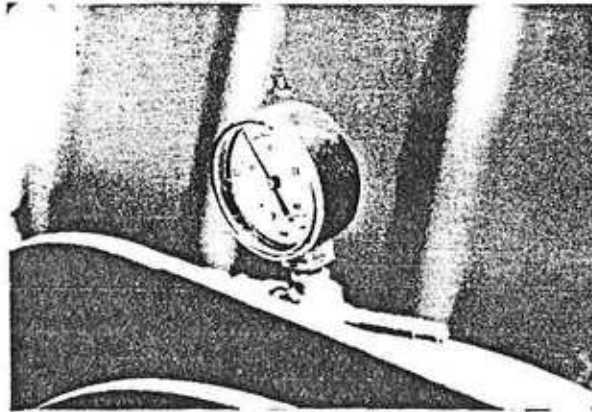

FIGURE 29
- C. Air pressure can be decreased by pressing the end of the valve stem near the gauge. Figure 29